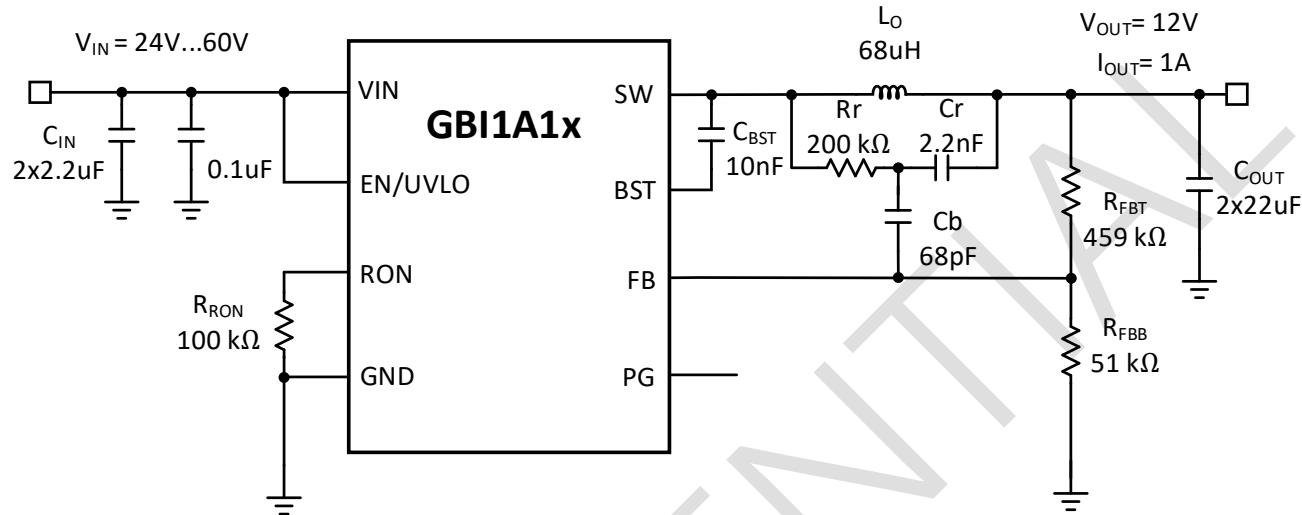
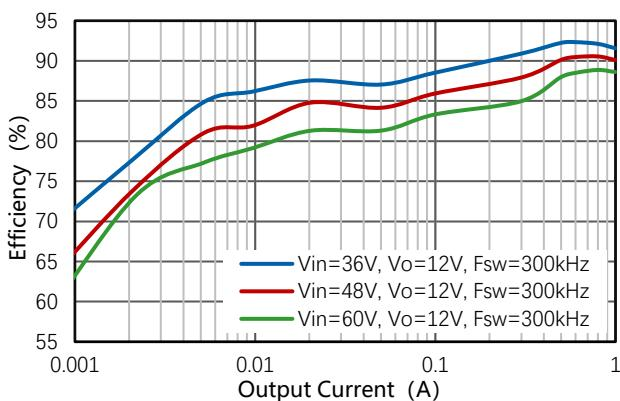

Figure 10-1. 48V Normal Input, 12V/1A Output with Type-3 Ripple Injection
Figure 10-2. Power Efficiency
The GBI1A1x output voltage can be easily set up using a resistor divider network R_{FBT} and R_{FBB} as shown in the typical application circuit Figure10-1. Use Equation (14) to calculate resistor divider values.
Table 10-2 and Table 10-3 list the recommended BOM for typical applications by referring Figure 10-1. It is recommended to work with switching frequency 200kHz if the input voltage is larger than 60V. Considering the capacitor's degrading under DC bias, it is recommended to leave margin on the voltage rating to ensure adequate effective capacitance. Typically, one 22 μ F(\geq 25V) ceramic output capacitor work for most applications, if for achieving better load transient performance, two 22 μ F ceramic output capacitors are recommended. As described in 9.4, the ripple injection voltage is related to the R_{FBT} and R_{FBB} , so it is highly recommended to refer below table for BOM selection to avoid the unstable operation.
Figure 10-2 to Figure 10-17 are tested based on Figure 10-1 with GBI1A11.